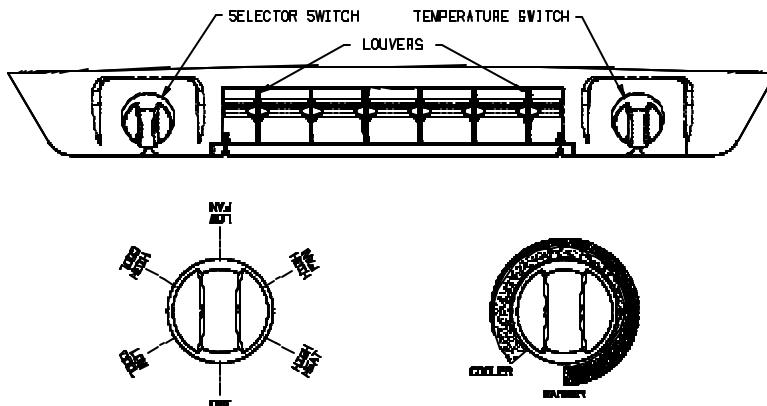

FIGURE 1
A. The Selector Switch — The selector switch determines which mode of operation the air conditioner will be in. By rotating the selector switch, the operator can obtain any system function desired. System functions vary depending upon options of both the roof top unit and ceiling assembly. Figure 1 shows selector switch location and
- B. The thermostat (temperature control) - The thermostat regulates the “ON” and “OFF” temperature setting at which the compressor will operate (See Figure 1).
I. For Cooling (Refer to Figure 1, Page 2)
IV. For Heating (Refer to Figure 1, Page 2)
V. For Air Circulation Only (Refer to Figure 1, Page 2)